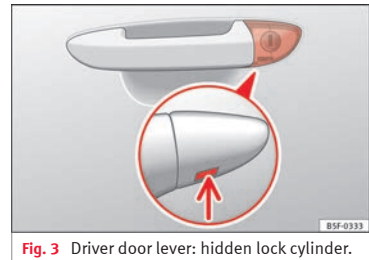

Fig. 3 Driver door lever: hidden lock cylinder.
- Insert the key shaft into the lower opening in the cover on the driver door handle from below » **Fig. 3** (arrow) then remove the cover upwards.